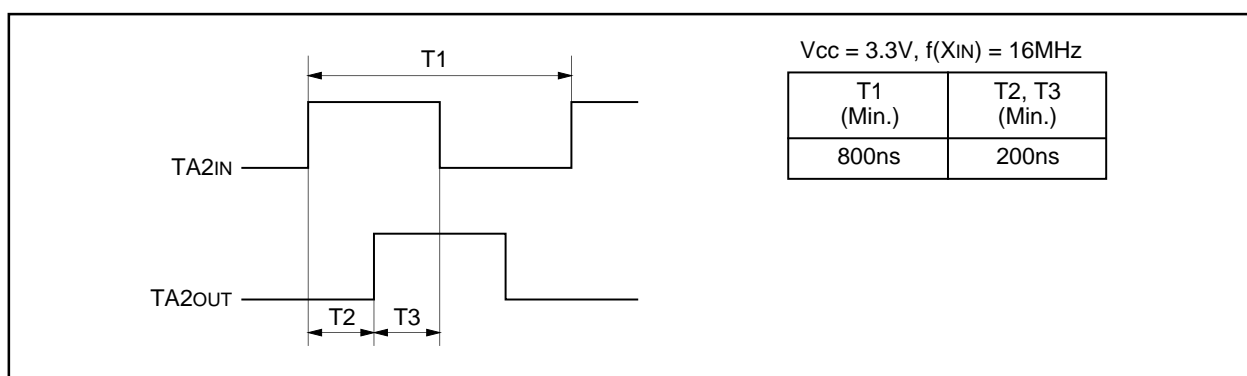

Figure 1.3.3. Standard of 2-phase pulses
3. Please note the standards for the differences between the 2 pulses used in the 2-phase pulse signals input signals to the TA2IN pin and TA2OUT pin, as shown in Figure 1.3.3.